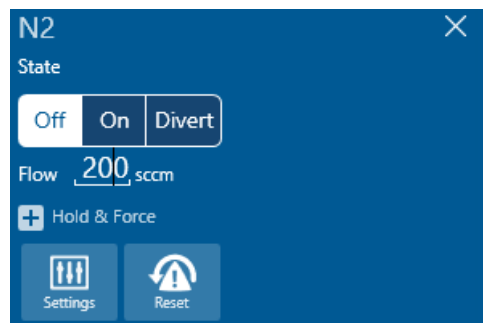

Figure 6-12 N2 device panel
- 4 Click on the MFC to open the device panel for the gas to be used (see Figure 6-12).